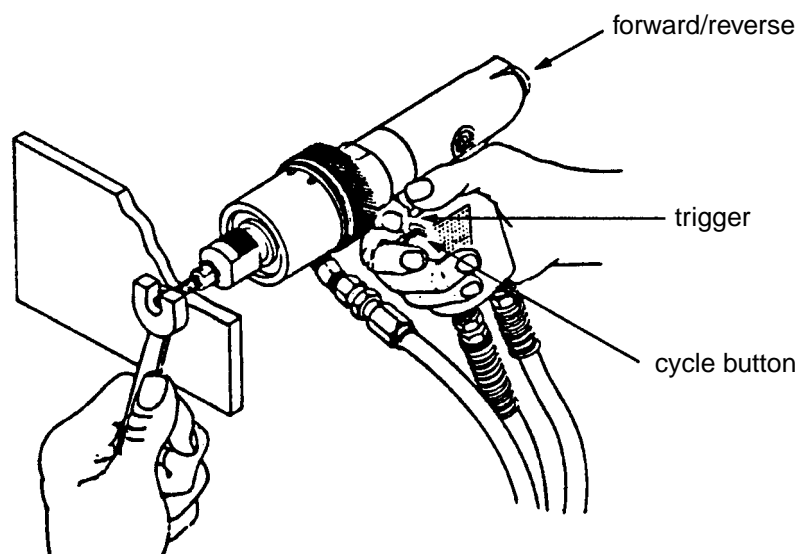

Figure 10 - Use of DTP3000 Air/Hydraulic Tool
5.3.6 The DTP3000 rivetless nut plate installation tool is a portable air/hydraulic power tool used to install -12 (1/4") size rivetless nut plates in countersink type installation. Although the DTP3000 tool is the only type of tool which can be used to install self-sealing type nut plates, it can also be used to install standard type nut plates on assemblies or components which do not permit the use of standard squeezers or riveter tools. The basic equipment consists of a handle-gun and a booster unit with connecting hoses and a TS.423.14.12 plier type holding tool to hold sealed nut plates, or a wrench type holding tool to hold standard nut plates, during installation. Refer to Figure 9 for a general description of the DTP3000 power tool. Refer to Figure 10 for a general description of using the DTP3000 tool. Install nut plates using a DTP3000 air/hydraulic power tool as follows: